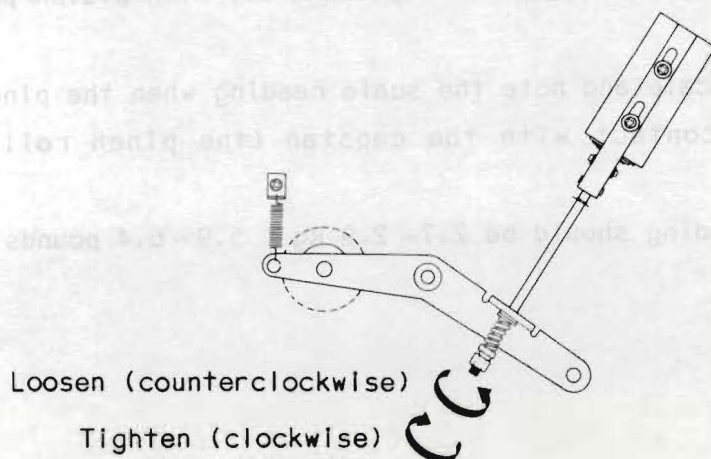

Figure 6-5 Pinch Roller Pressure Adjustment
This force is adjusted by means of the nut shown in Figure 6-5.
6. If a proper scale reading was not obtained in step 5, loosen the locknut and adjust the pressure nut as shown in Figure 6-5.